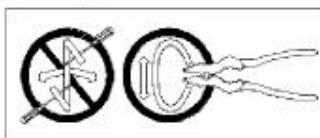

Fig.3
8. Thread the nipple (C) into the loop (F) until snug.
9. Thread the other end of the nipple (C) with the loop attached into the crossbar (D) until snug.
10. Place lock washer (B) over end of nipple protruding through crossbar and thread hex nut (A) onto nipple until tight.
11. Take this crossbar assembly and mount to ceiling junction box with junction box screws (E) (Size: #8-32\*1"L). Tighten screws securely with screwdriver.
12. Using proper chain pliers to open one end link of the chain provided and connect to the fixture loop (J); then close the link.
15. Slip loop collar (H) and the canopy (G) and the canopy (I) over the chain.
17. Feed the fixture wires through the loop (F) and nipple (C) and pull until tight.
**CONNECTING THE WIRES (Fig.3)**
18. Connect the electrical wire as shown in figure 3, making sure that all wire connectors are secured. If your outlet has a ground wire (green or bare copper), connect the fixtures ground wire to it. If the junction box has no ground wire, attach the bare copper fixture wire to the green ground screw (Screw: #8-32\*3/8"L) on the crossbar. Tuck the wire connections neatly into the ceiling junction box.